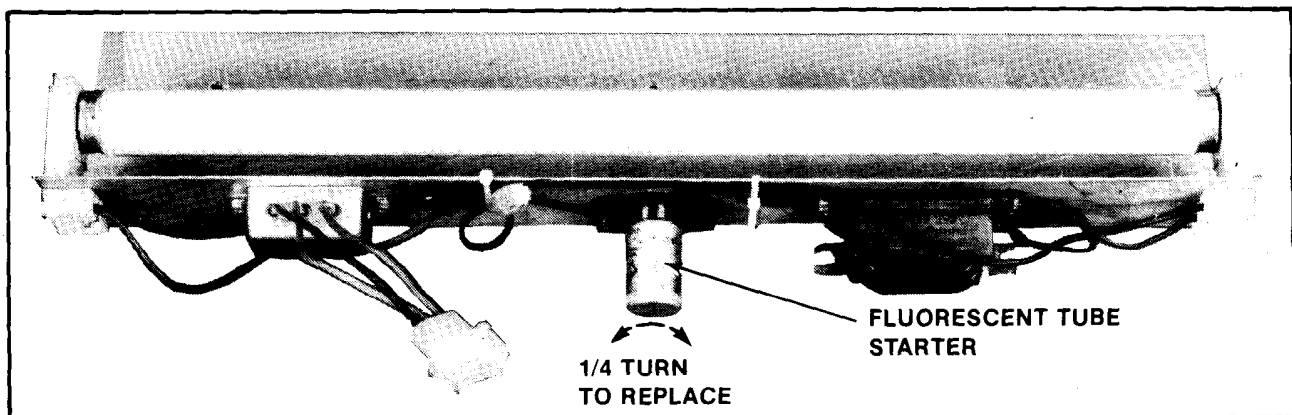

Figure 2-47 Replacing the Fluorescent Tube Starter - Upright
**WARNING:** If you drop a fluorescent tube and it breaks, IT WILL IMplode! Shattered glass can fly six (6) feet or more from the implosion. Use care when replacing any fluorescent tube.
- ☐ Replacing the fluorescent tube starter. See Figure 2-47.
- ❑ Replacing the black light tube starter. See Figure 2-47.